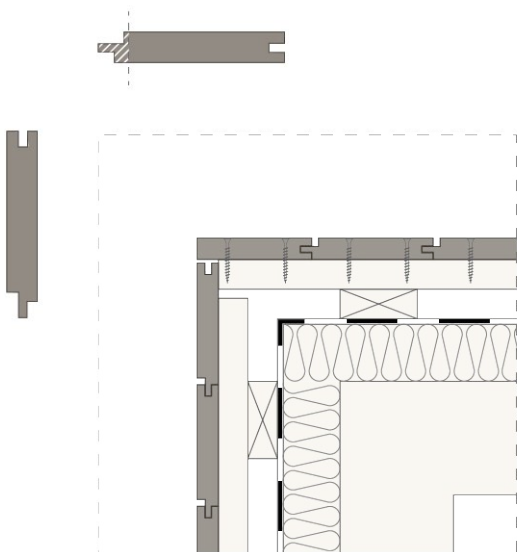

Fig. 3: External corner finishing by cutting off the groove edge of one of the boards
- by cutting off the groove edge of one of the boards (see Fig. 3; 4)